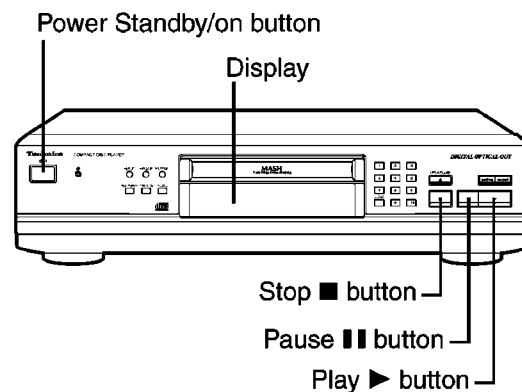

Fig. 7-1.
2. While pressing and holding the Stop, Pause and Play button, turn on the unit again. Refer to Fig. 7-1. (The self-diagnostic function is activated.)
4. Press the Play button to play the test disc. Refer to Fig. 7-1.